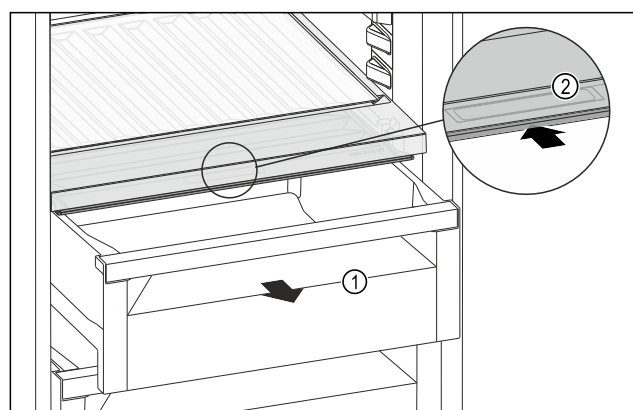

Fig. 164
- Pull out the drawer Fig. 164 (1).
- Grasp the recessed grip Fig. 164 (2) on the compartment lid and push the compartment lid backwards at the same time.